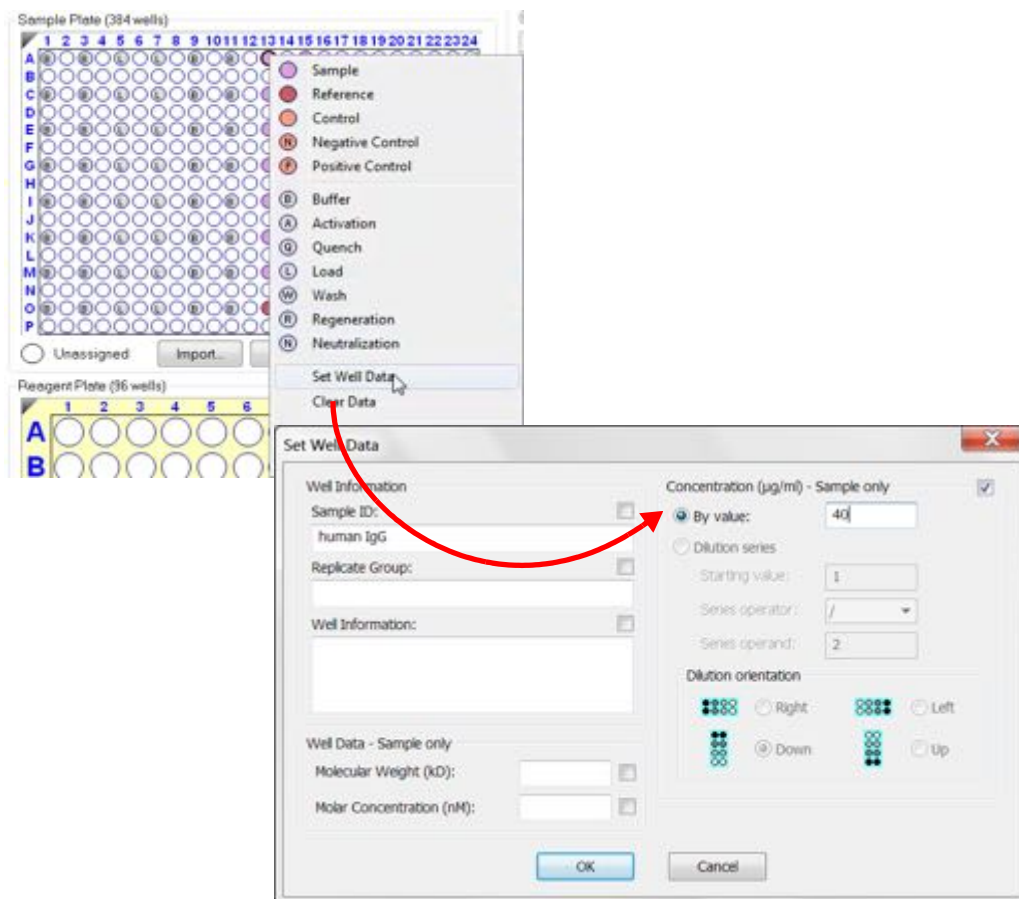

Figure 10-11: Sample Plate Map—Assigning Sample Concentrations by Value
1. In the **Sample Plate Map**, select the desired wells, right-click and select **Set Well Data**. The **Set Well Data** dialog box displays (see Figure 10-11).